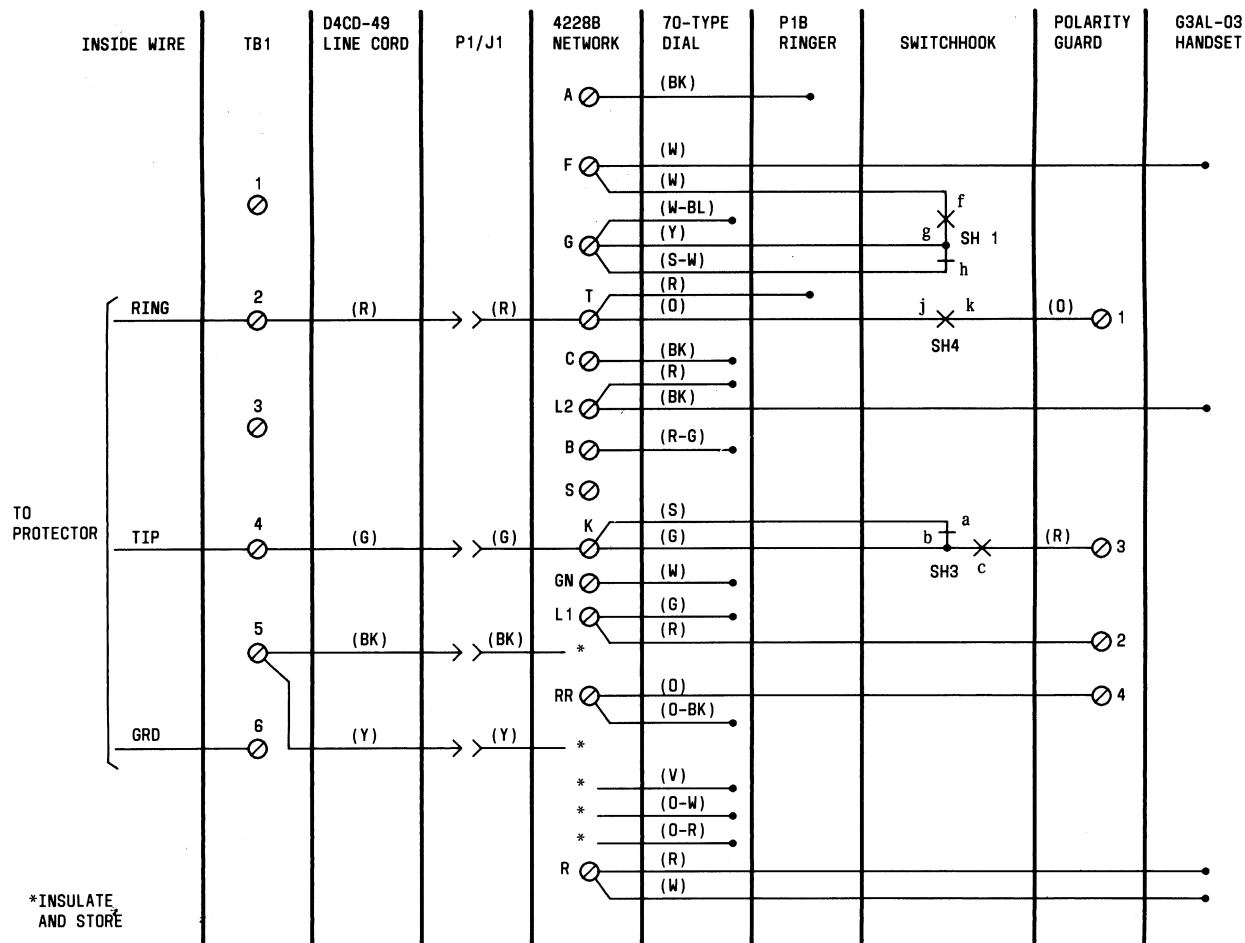

Fig. 17—10A and 20A Coinless Telephone Set, Connections
- (b) Disconnect switchhook leads from network and polarity guard (Fig. 17).
- (a) Disconnect switchhook leads from network and polarity guard (Fig. 17).
- (h) Run cable through cable ties and connect wires per Fig. 17.
- (a) Disconnect handset leads (Fig. 17) and loosen screw to remove stayband (hook) which anchors leads to upper part of housing.
- (e) Install using reverse procedure and make connections per Fig. 17.
- (e) Install using reverse procedure and connect leads per Fig. 17.
- (f) The same printed wiring board assembly is used in D-180893 Kit of Parts. In that kit, however, the leads are attached to different terminals on the polarity guard, and must be changed to agree with Fig. 17. The kit also contains a bracket which is not used in the coinless set and should be discarded.
7.01 Refer to Fig. 17 for connections on the 10A or 20A coinless telephone set.